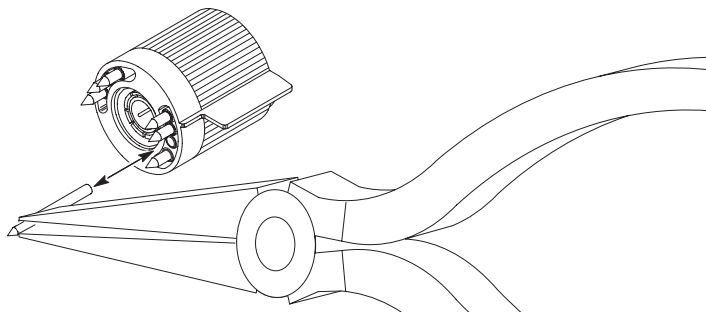

Figure 13: Replacing TEKPROBE interface pins
1. To remove the interface pin, grasp the pin with a pair of needle-nose pliers and gently pull the pin out. See Figure 13.